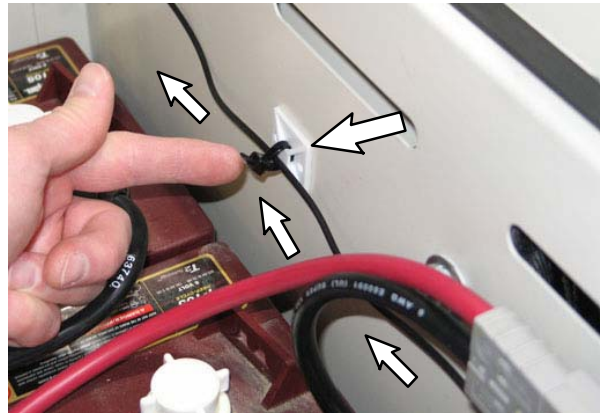
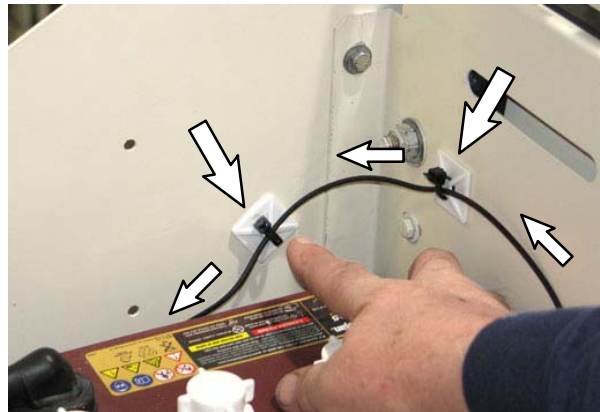

FIG. 14
FIG. 15
22. Continue routing the antenna (6) wire along the back of the battery compartment to the other side of the battery compartment. Use cable tie mounts (17) / cable ties (18) to secure the antenna wire to the back of the battery compartment. (Fig. 14 / Fig. 15)